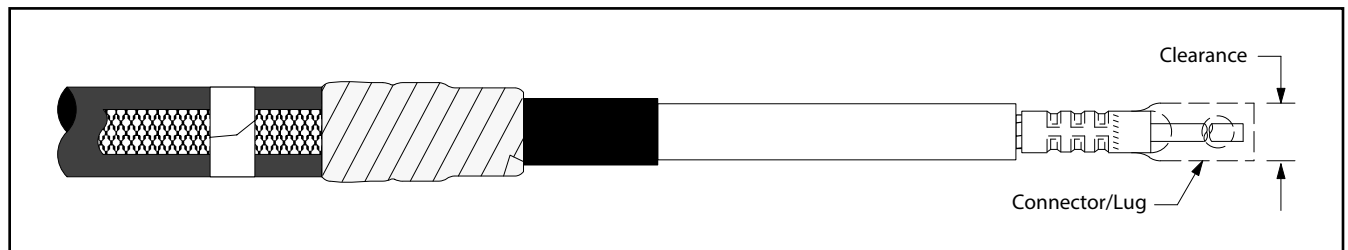

Figure 6
- 4.1 Check to insure 3M™ Cold Shrink QT-III Silicone Rubber Termination assembly fits over the selected lug or connector. If lug or connector (Figure 6) will not fit through the termination core, clean the insulation (per Step 5.0) and slide termination on cable before installing lug or connector. **DO NOT REMOVE CORE AT THIS TIME.**